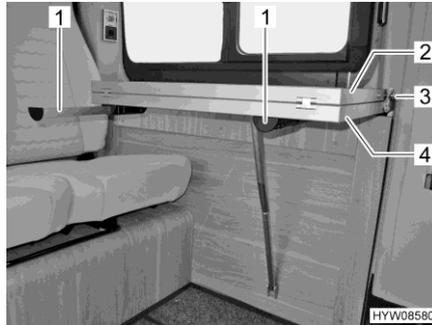

Fig. 47 Table
- Pull out the two supports (Fig. 47,1).
- Pull out securing button (Fig. 47,3) and remove retaining belt from the table top extension (Fig. 47,2).
- Fold out the table top extension (Fig. 47,2).
- Fold up the table top extension (Fig. 47,2).
- Press securing button (Fig. 47,3) of the retaining belt onto the holder on the table top extension.
- Push in the two supports (Fig. 47,1).
- Slightly raise the front of the table top (Fig. 47,4).